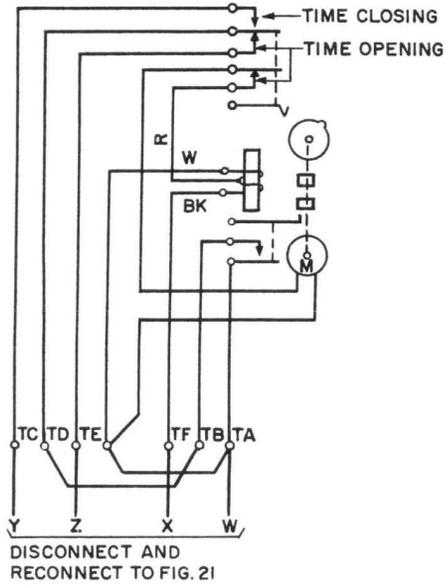

Fig. 15 – Schematic Diagram of CR2820-1099 Time-Delay Relay
(2) Remove the leads from each terminal of the old relay and identify them as shown in the appropriate Fig. 15, 17, or 19. For example, in Fig. 15, the lead connected to the TA terminal will be tagged W. Straps between terminals of the old relay can be removed.
(3) If the leads are not located on terminals as shown in Fig. 15, 17, or 19, check the schematic of the particular compensator or starter in question, as shown in Section 026-305-701, and rearrange the tags in accordance with the schematic figure.